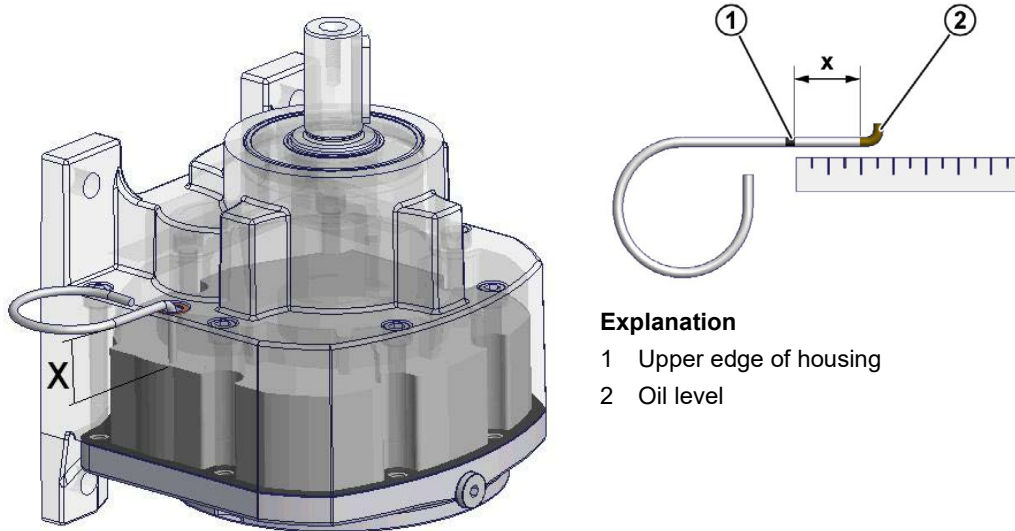

Figure 34: Measuring the oil level
2. Determine the measurement X between the upper edge of the gear unit housing and the oil level. If necessary, adjust the dipstick accordingly (see Figure 34).